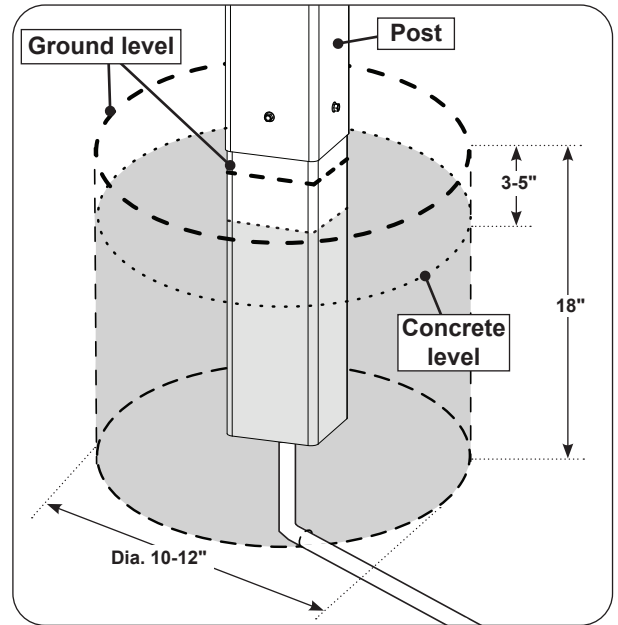
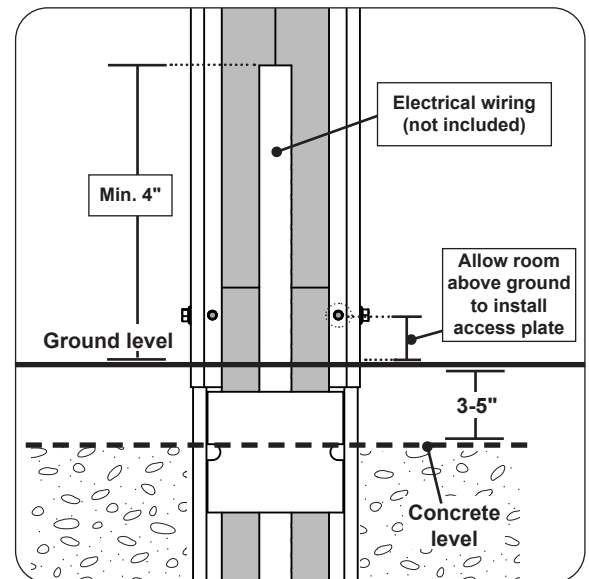

Fig. 6-1 In-ground installation overview
Fig. 6-2 Place post in-ground
4. Pour the concrete mixture into the hole to approximately 3-5" below the ground level taking care to protect the electrical wiring. See Fig. 6-1 and Fig. 6-2.
Important: The post assembly should be positioned just above ground level to ensure that the access plate remains accessible and can be easily removed. See Fig. 6-2.